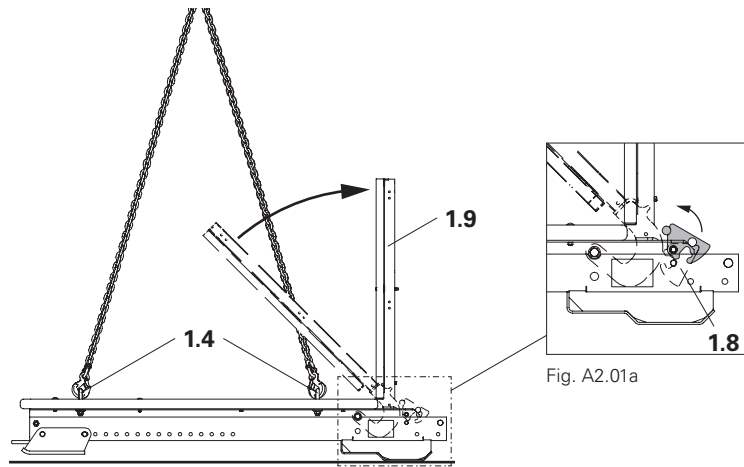

Fig. A2.01
2. Attach the 4-sling lifting gear to the crane eyes (1.4). (Fig. A2.01)